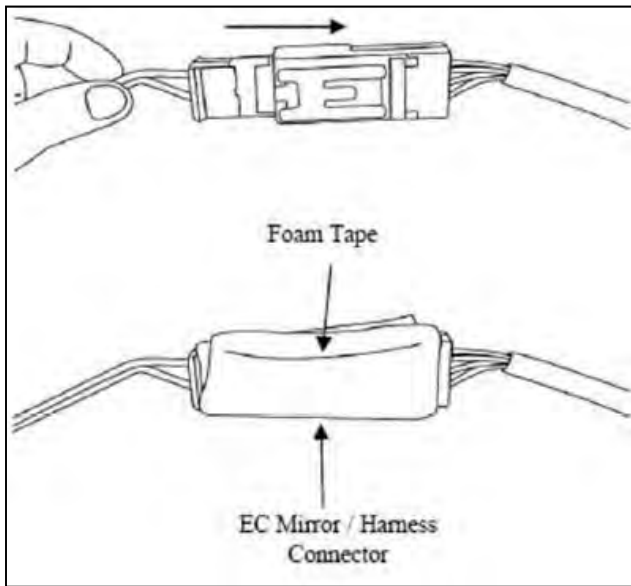

Figure 9
9. Connect the mirror harness to the mirror main power harness. Make sure both connectors are fully engaged. Wrap foam tape around connectors. See figure 9.